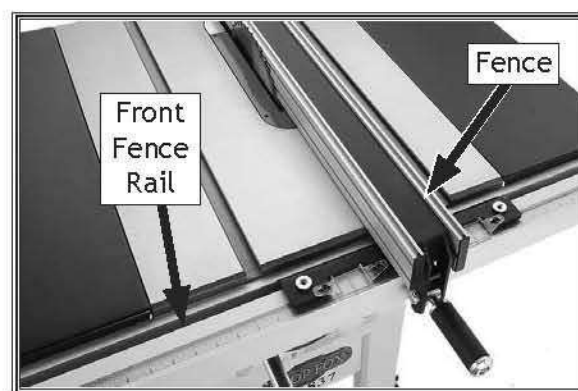

Figure 28. Fence installed on front rail.
18. Place fence on front fence rail, as shown in **Figure 28**. Press handle down to lock fence in position.